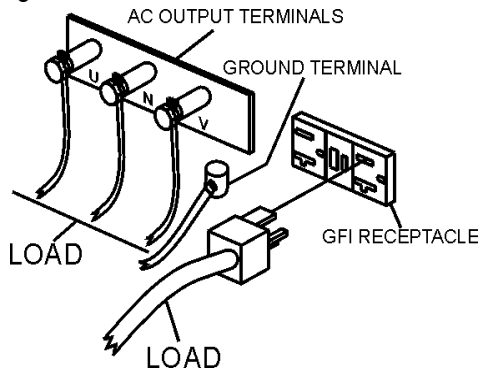

Figure 32. UVW Terminal Lugs (Load)
2. Connect the load to the UVW terminals as shown in Figure 32. These terminals can be found on the output terminal panel, see page 35 Figure 14. To gain access to the output terminals lift the UVW cover. Make sure to tighten terminal nuts securely to prevent load wires from slipping out.